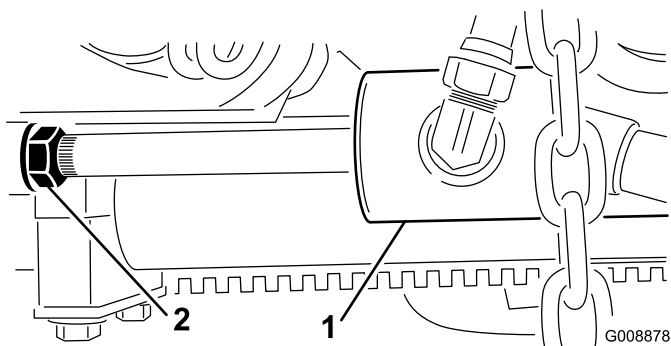

Figure 27
- B. Back off the jam nut on the cylinder (Figure 27).